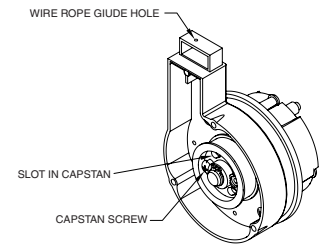

Figure 3
5. Referring to Fig. 3, with fingers restrain capstan from rotating and loosen screw on capstan. Remove wire rope. Allow retraction spring to slowly unwind capstan.
8. Feed wire rope through hole in surface of capstan (Fig. 3).
9. Using thin bladed tweezers, pull wire rope through slot in web of capstan and wrap around screw. Tighten screw to 50 oz-in. (0.35 N-m) to secure wire rope to capstan (Fig. 3).